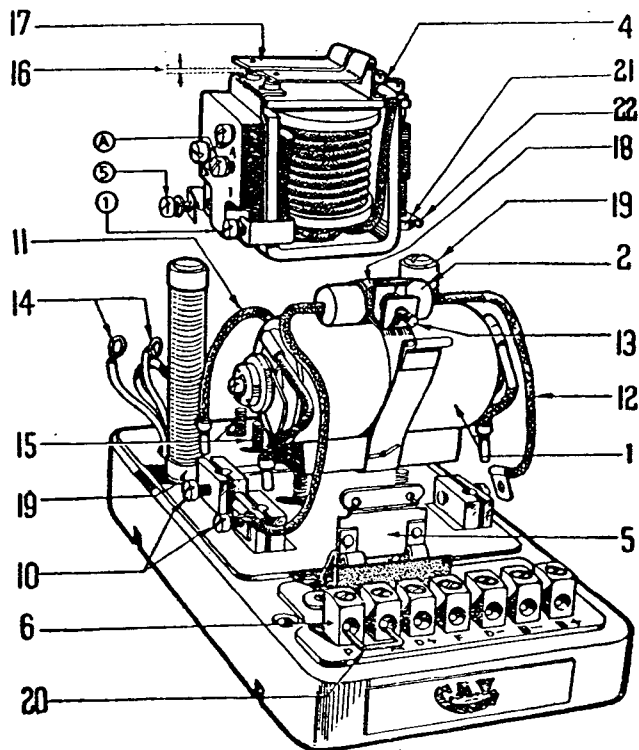

Fig. 20.
## 2. Description and Operation (Figs. 20 and 21.)
A condenser .020 mfd. capacity, is connected across the regulator terminals as illustrated in Fig. 20 for the purpose of suppressing interference with radio receivers.
**CONTROL BOARD—continued.****REGULATOR.****To replace Regulator complete (Fig. 20).**
- (a) Release all terminal screws (10).
- (b) Take out regulator leads (11).
- (c) Remove condenser leads (12).
- (d) Release cradle strap screw (13) and open strap.
- (g) Remove 3 connections (14) from terminals marked A, 5 and 1.
- (h) From back of board take out 4 screws (15).